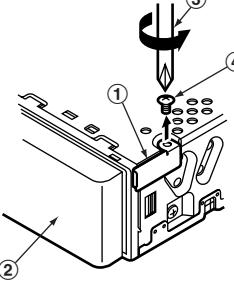

Figure 5 / Figure 5 / Figura 5
1. Remove the screw from the source unit (Figure 5).